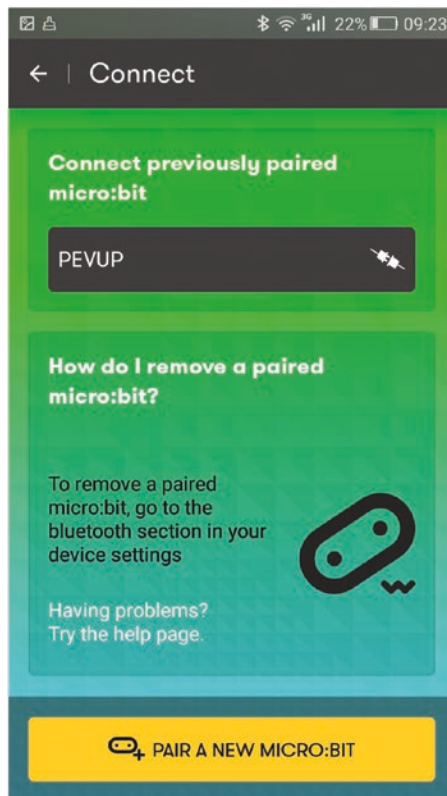

Figure B-7. Reconnect to the previously paired micro:bit
12. You can reconnect your micro:bit to the app at any time by tapping the name (i.e., PEVUP) of your micro:bit listed under Connect Previously Paired micro:bit (see Figure B-7).